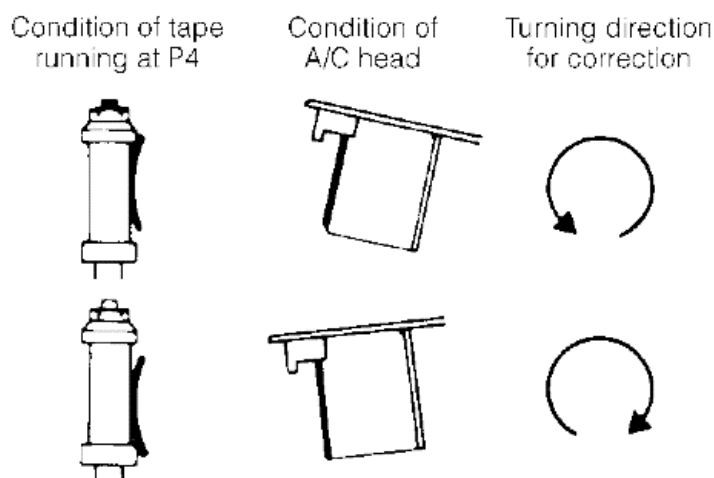

FIGURE 38-21 The VHS A/C head tilt in a VHS camcorder.
Confirming A/C head tilt Make this adjustment after the height adjustment of P4. Play the tape and be sure that the tape runs between the lower and top limits of -post P4 (Fig. 38-21). Notice the tape movement. If an adjustment is necessary, turn screw (C) clockwise so that the curling is apparent with the lower edge of P4. Now turn the screw (C) counterclockwise so that the curling of tape smooths out.